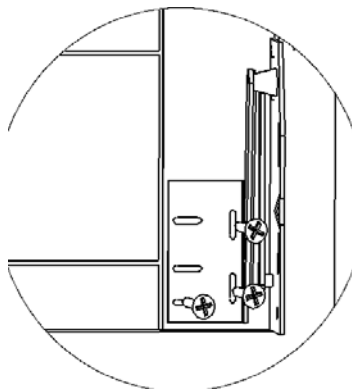

Figure 7
6. Installing the Corner Braces (Figure 7): Place the corner braces (K) on each top corner of the cabinet and secure them with the 1/2" round head screws. The 2" screws are used for connecting corner braces and the counter top.